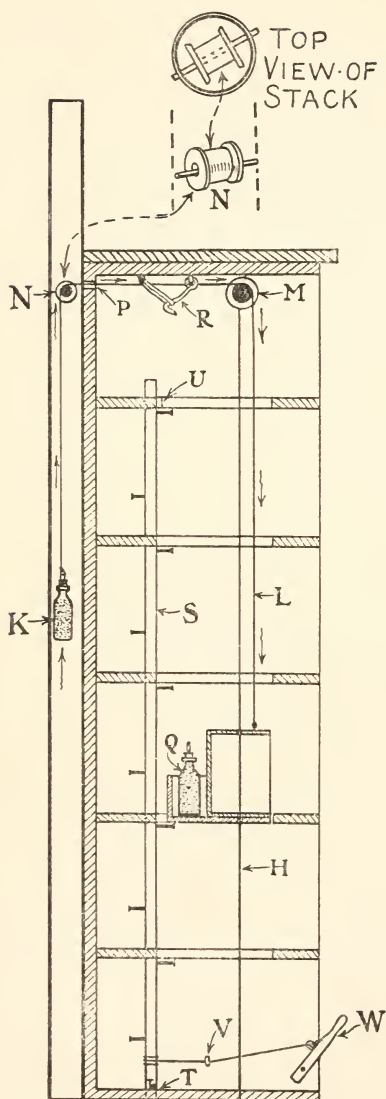

FIG. 97. — Section through Elevator Shaft.
**The Cables.** The elevator is lifted by means of cord *L* (Figs. 97 and 101). Fasten this cord to a tack driven into the top of the car, then run it up and over spool *M* (Figs. 97 and 101), over spool *N* (Fig. 97), and tie to weight *K*,
**The Smoke-Stack**, which is fastened to the back of the building (Fig. 97). Make the stack of cardboard mailing-tubes, joining them end to end with bands of paper pasted
Fasten pulley spool *N* in the smoke-stack by means of a wooden axle pushed through holes pierced in the side of the stack, as is shown in the small drawing above, Fig. 97. Bore a hole through the back of the building for the cable cord *L* to run through (*P*, Figs. 97 and 100), and cut another through the smoke-stack.